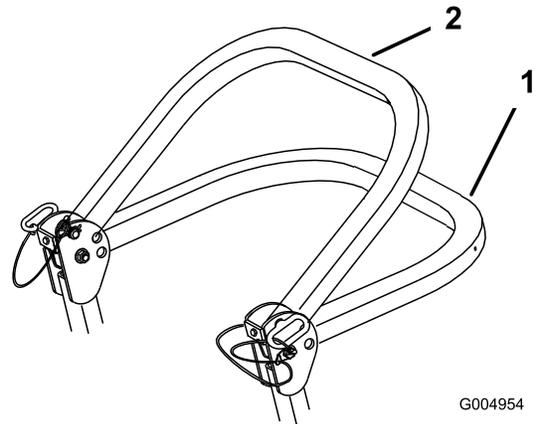

Figure 8
2. Lower the roll bar to the down position. There are 2 down positions. See Figure 8 for the positions.